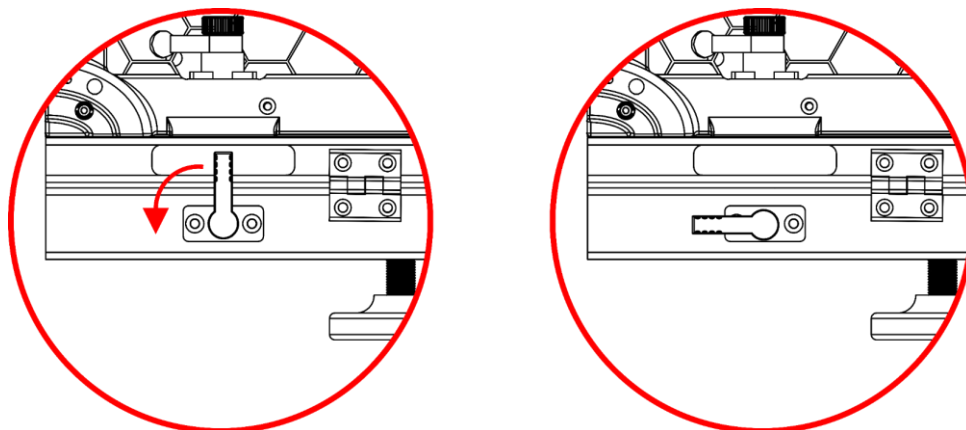

Fig. 21
- 01) Release the left and right **inclination angle locks (05)** (Fig. 21).